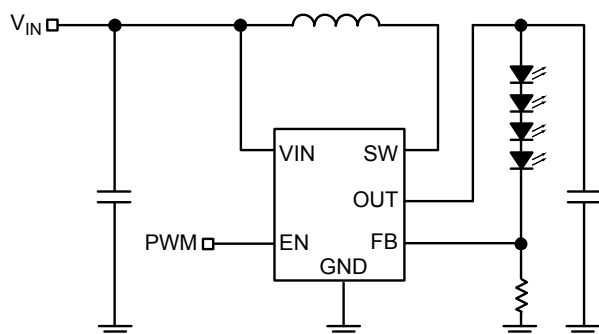

Figure 1. PWM Dimming Method
1. PWM dimming control is implemented by applying a PWM signal on EN pin as shown in Figure 1. The MIC2292/93C is turned on and off by the PWM signal. With this method, the LEDs operate with either zero or full current. The average LED current is increased proportionally to the duty-cycle of the PWM signal. This technique has high-efficiency because the IC and the LEDs consume no current during the off cycle of the PWM signal. Typical frequency should be between 100Hz and 10kHz.